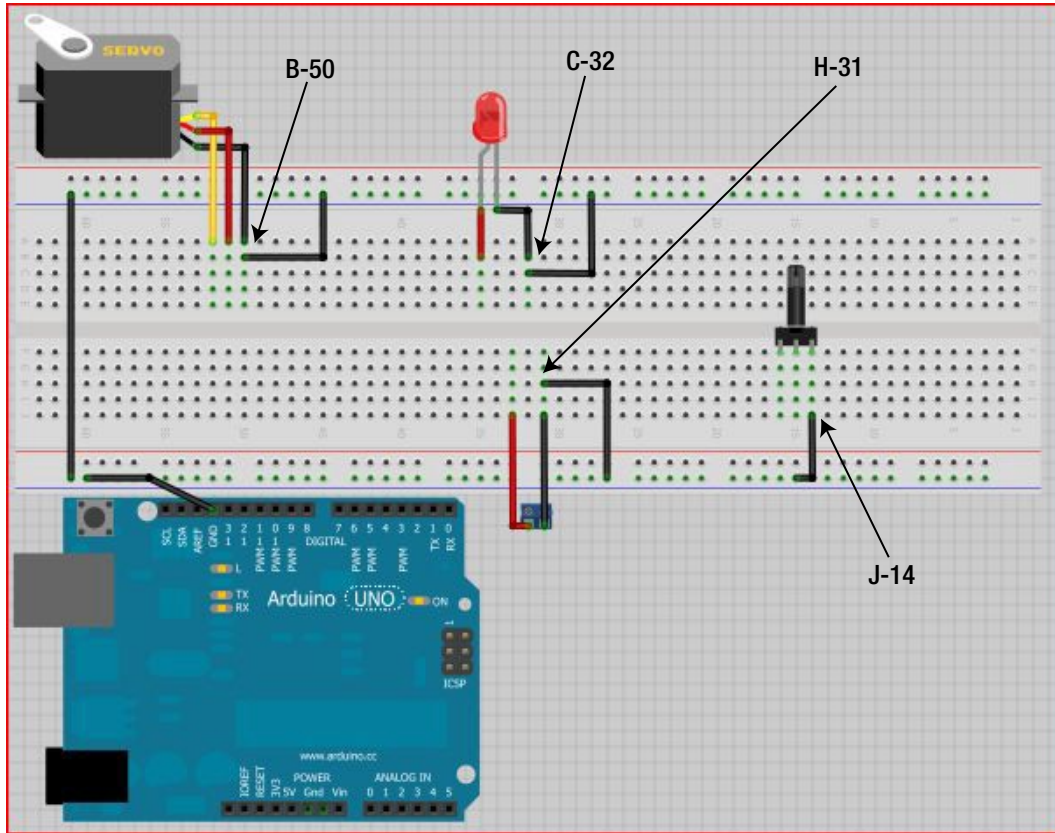

Figure 23-10. Attach ground to all components
9. Now attach the grounds of each of the components. First, use a jumper wire to connect the potentiometer ground to the ground column of the breadboard—just insert a wire into the ground column (closest to the blue line) and then insert the other end of the wire into J-14. The LED ground (the cathode) will have a wire running from the ground column (closest to blue line) to C-32. The servo ground (black wire) will go from the ground column (closest to blue line) to B-50. Finally, the two-position terminal block will have a wire running from the ground column to H-31. Figure 23-10 illustrates this process.